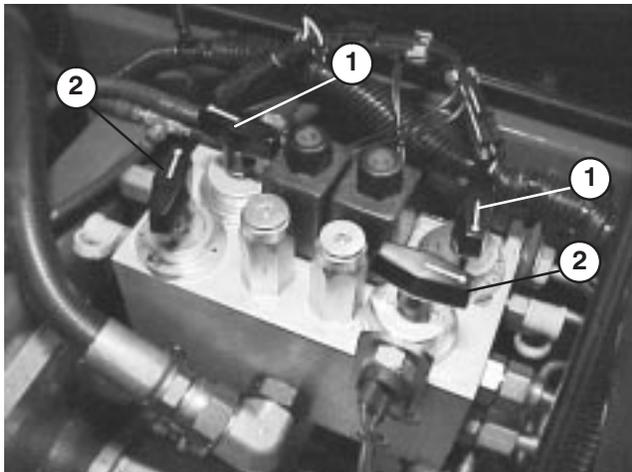

Figure 25
SETTING REEL SPEED (Fig. 25)
4. To set reel speed, rotate knobs (Fig. 25) until indicator arrows are in line with the number designating desired setting.